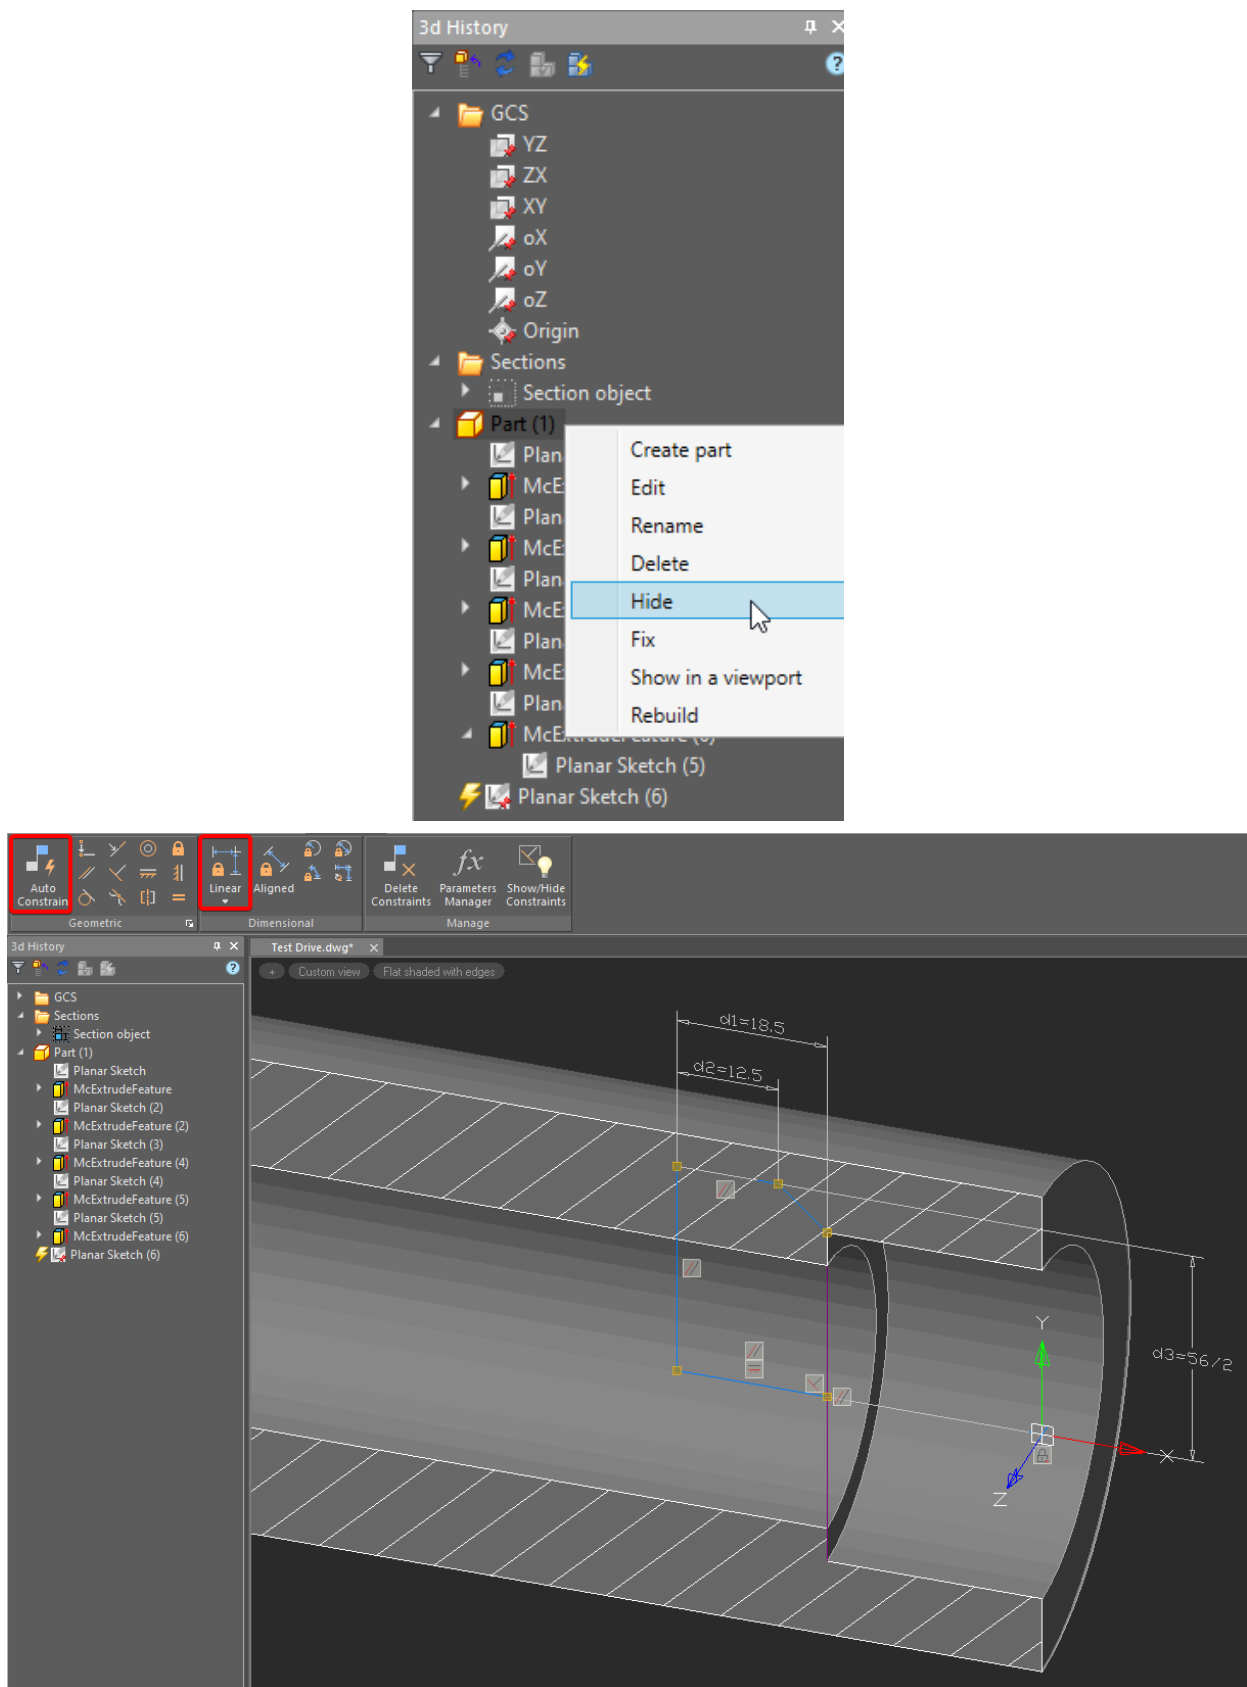

Fig. 16. The sketch with the parametric constraints
5.4. When done, apply the Auto Constraint to ease line selection. You can hide the whole part: just right-click the part's name in the 3D history and choose Hide. If you want to make it visible again, right-click the part's name and choose the Show option. After the Constraint is done, use the Linear command in the Dimensional group (Fig. 16).